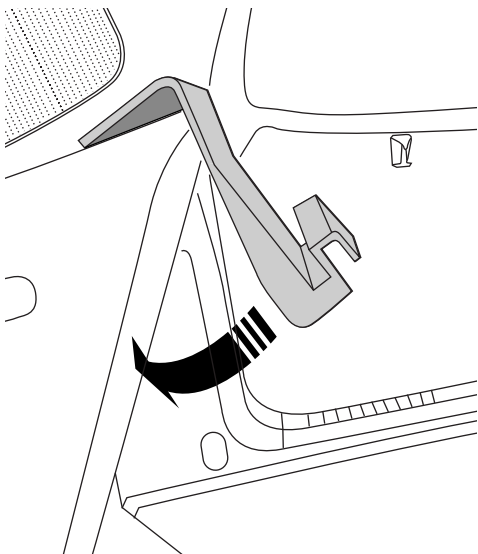

Figure 6
- B. Align the top of the Cargo Storage Shelf Brackets to the panel surface first (Figure 6).